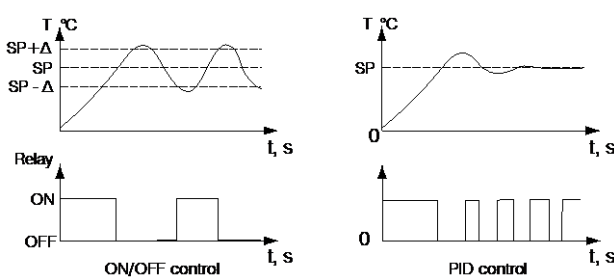

Fig. 1 Control
- On-Off or PID control (see Fig. 1)